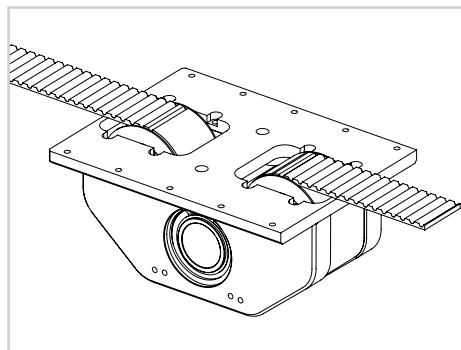

Fig. 15
- 8) Insert the new belt inside the driving head taking care about the orientation of the teeth which must engage with the driving pulley (see Fig. 15).